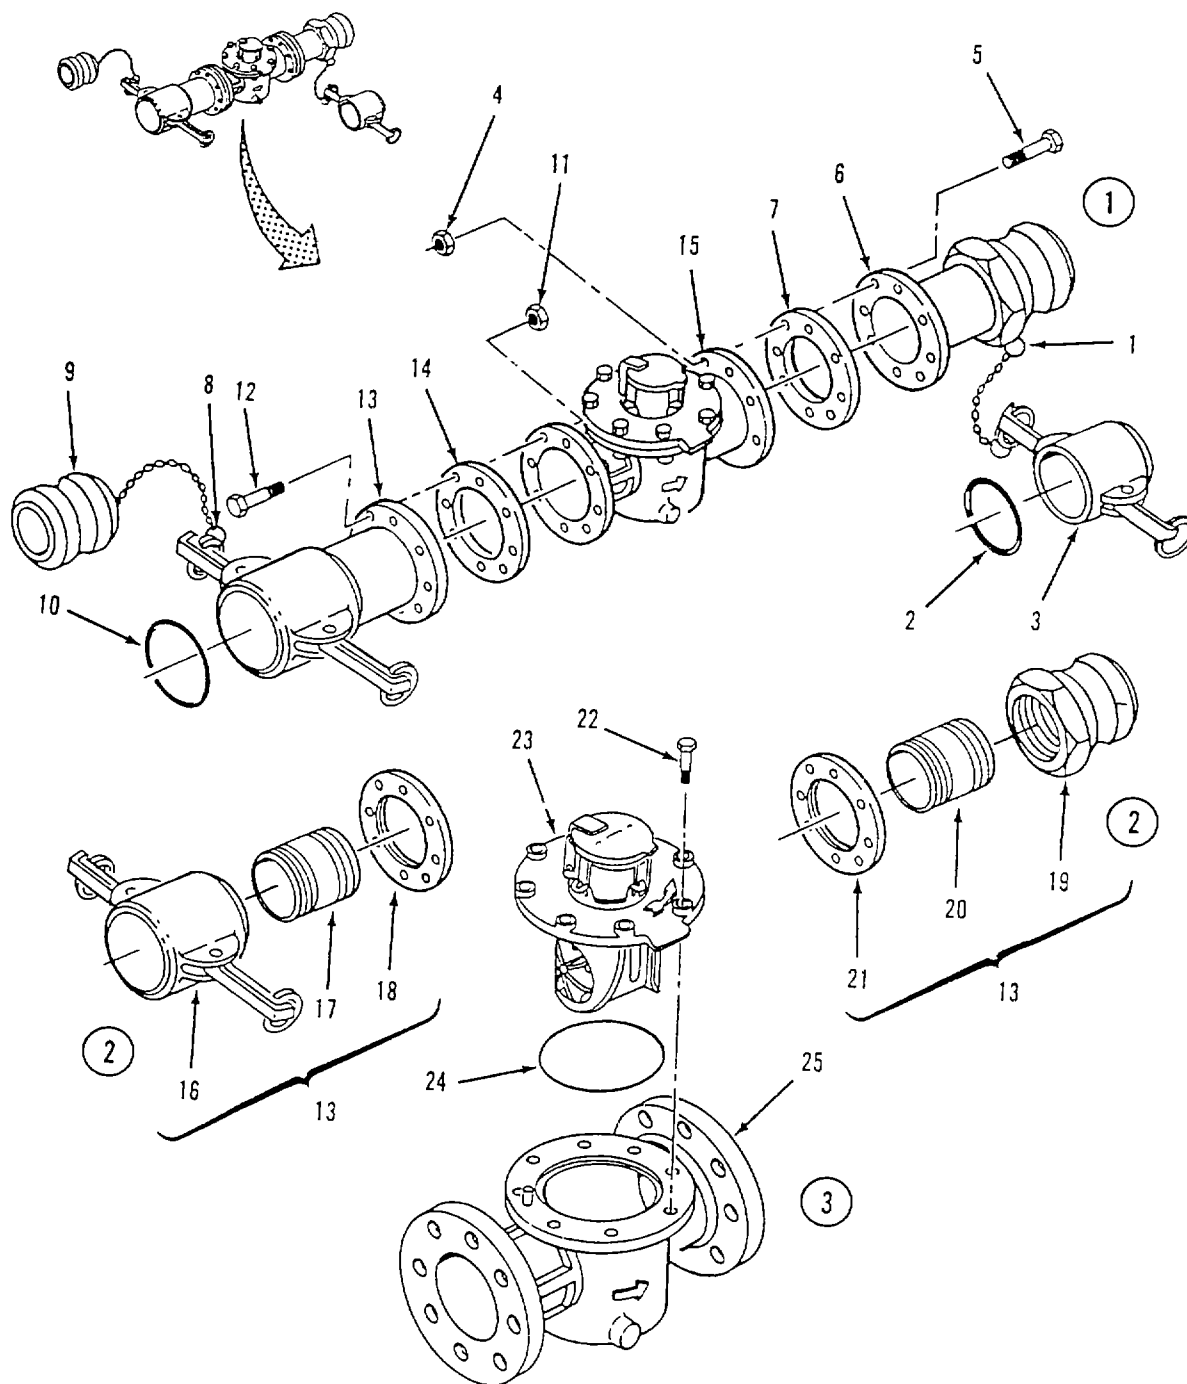

Figure 4-29. Water Meter Repair.
a. Disassembly. Refer to figure 4-29.
- (1) Disconnect ring (1) from male coupling (9) and remove cap (3).
- (2) Remove gasket (2) from cap (3)
- (3) Remove eight self locking nuts (4) and screws (5).
- (4) Separate male coupling (6) and gasket (7) from meter (1 5)
- (5) Disconnect ring (8) from female coupling (13) and remove plug (9)
- (6) Remove gasket (10) from female coupling (13).
- (7) Remove eight self locking nuts (11) and screws (12).
- (8) Separate female coupling (13) and gasket (14) from meter (15).
- (9) If required, remove female coupling end (16) and nipple (17) from adapter (18)
- (10) If required, remove male coupling end (19) and nipple (20) from adapter (21).
- (1) Inspect female coupling end (16), male coupling end (19) and adapters (18 and 21) for cracks, stripped threads, and corrosion.
- (2) Inspect body (25) for cracks and corrosion
- (3) Inspect metering element (23) for cracks, damage, and corrosion.
e. Repair. Replace damaged or defective parts Replace all scaling componentsf. Assembly. Refer to figure 4-29.**NOTE**